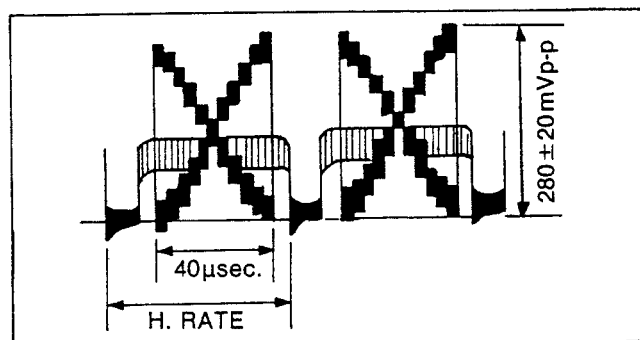

Fig. C17
- (1) Set the iris VR to centre click position.
- (2) Aim the camera at the Gray Scale Chart.
- (3) Connect the oscilloscope to TP515 and trigger with Pin7 of FP306 (H-rate).
- (4) Adjust the zoom to obtain 40usec picture frame as shown in Fig. C17.
- (5) Adjust the VR327 (Auto iris control) so that the signal level becomes 280mV ± 20mVp-p.